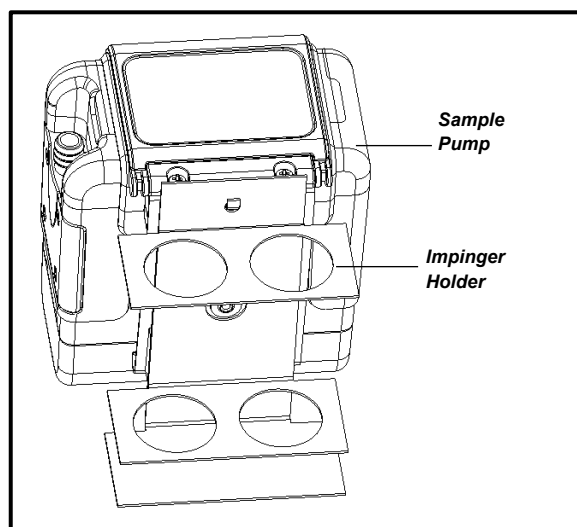
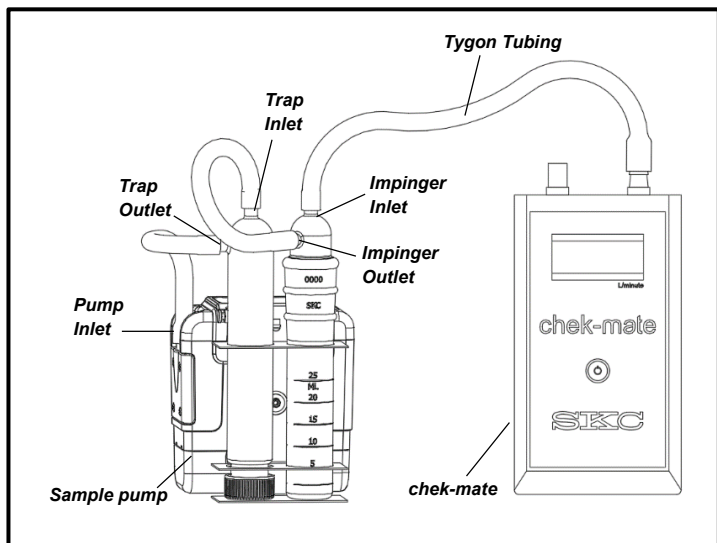

Figure 1. Glass impinger/trap holder attached to an AirChek Touch Series sample pump
Figure 2. Glass impinger and glass trap in flow rate verification train
2. Setting Up the Flow Rate Verification Train — Figures 1 & 2
Allow the pump to equilibrate from one temperature extreme to another and to run for 5 minutes before verifying flow rate. Attach the stainless steel holder to the pump. *See Figure 1 — for directions specific to holder and pump, see AirChek Touch Series impinger holder operating instructions or AirChek 52 pump operating instructions as applicable.* Place the impinger and trap in the holder. With flexible tubing, connect the impinger outlet to the trap inlet and connect the trap outlet to the pump inlet (*see Figure 2*).
3. Verifying the Flow Rate — Figure 2